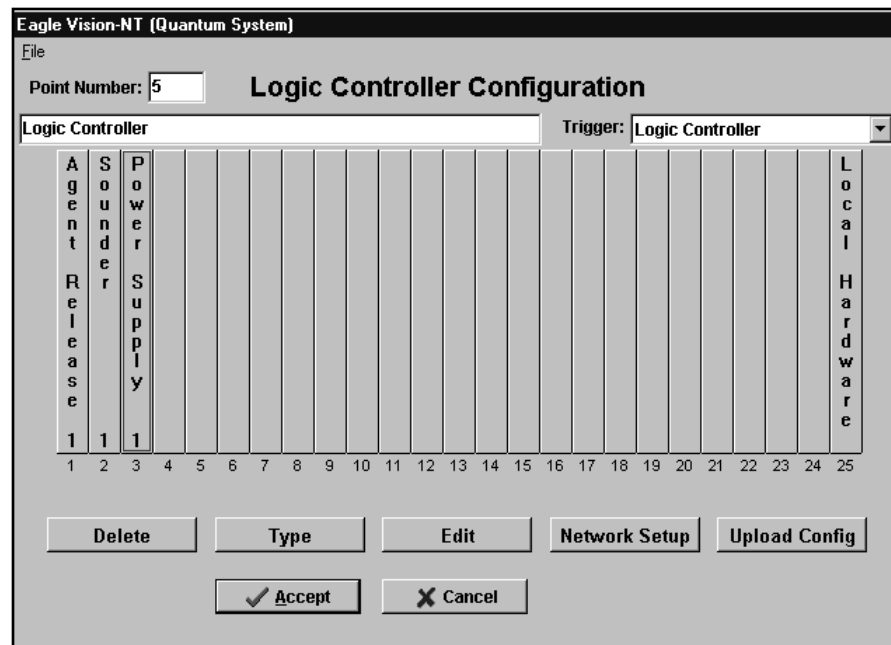

FIGURE V-4
1. Highlight line 5 on the Point Configuration screen. Click on the Modify Point button. Click on the Define button. Select Logic Controller, then click on OK. The Logic Controller Configuration screen will be displayed. See Figure V-4.